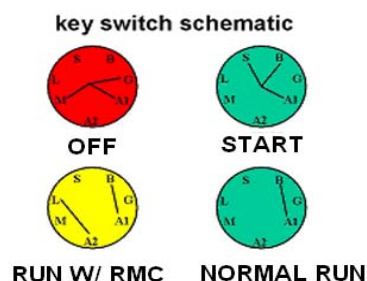

Figure 38.4
- 38.4. In the **OFF** position, continuity can be found between the M, G, and A1 terminals. See Figure 38.4.